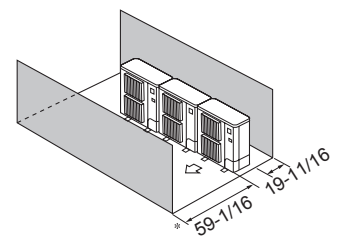

Fig. 3-14
④ Obstacles at front and rear only (Fig. 3-14)